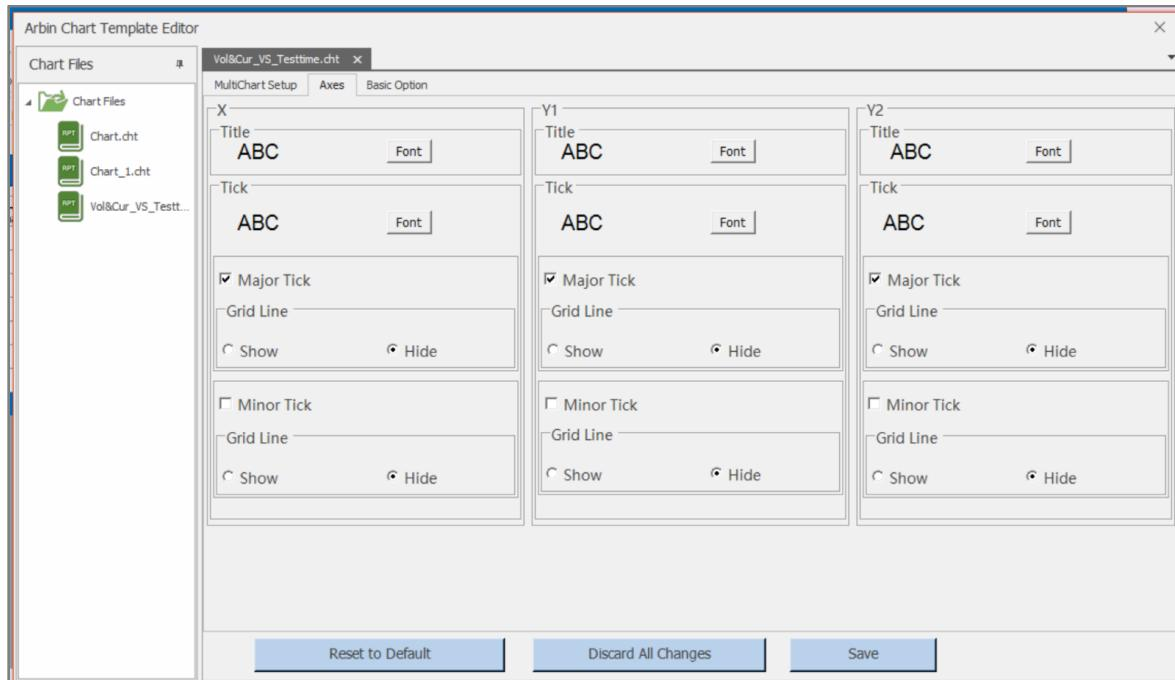

Figure 11-28 Set the Axis Display Options
- 2) Configure the Axis Display Options (Figure 11-28).